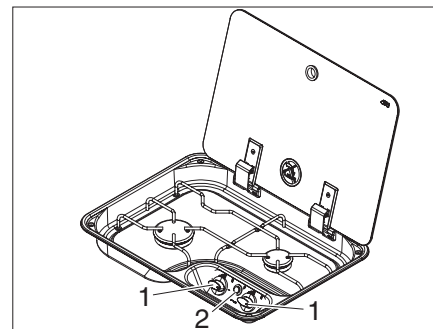

Fig. 167 Operating controls for gas cooker
- Turn the control knob (Fig. 167,1) on the burner you wish to use to the ignition position (large flame).
- Create a spark by pushing the ignition button (Fig. 167,2).
- ▶ Turn the control knob (Fig. 167,1) to the 0-position. The flame fades.